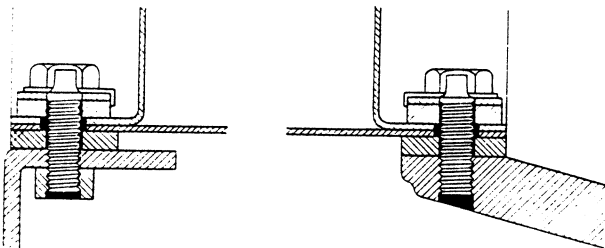

FIG. 3
**Method (iii) Fig. 3.** (Tractors serial No. 74,540 on).